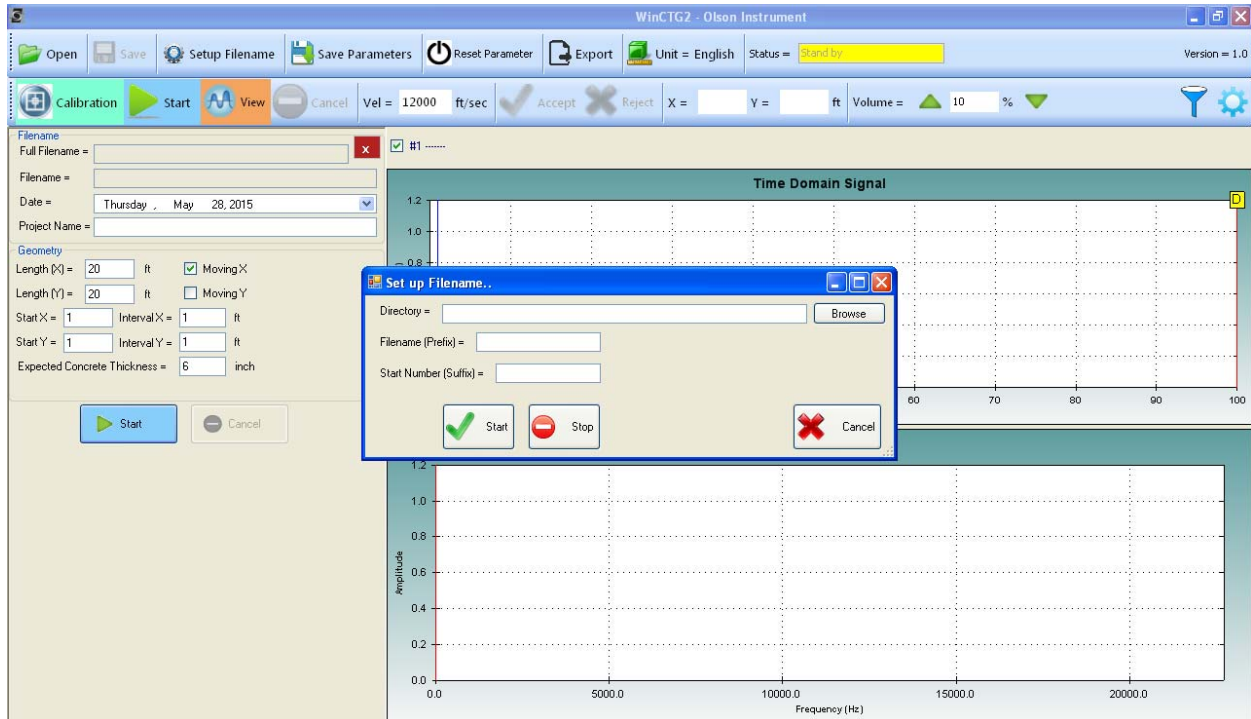

Figure 3 – Set Up Filenames
**Set up Automatic File Naming:** To set up sequential numbering of the files to be collected, select the “Setup Filename” option found in the Main Menu. This will open a dialogue box as shown in Figure 3 below. Enter the directory where the data is to be saved along with an alphabetical prefix and a numerical suffix. The alphabetical prefix will remain fixed and the numerical suffix will increase with each test. When finished, select “Start” to close the dialogue box and start collecting data.